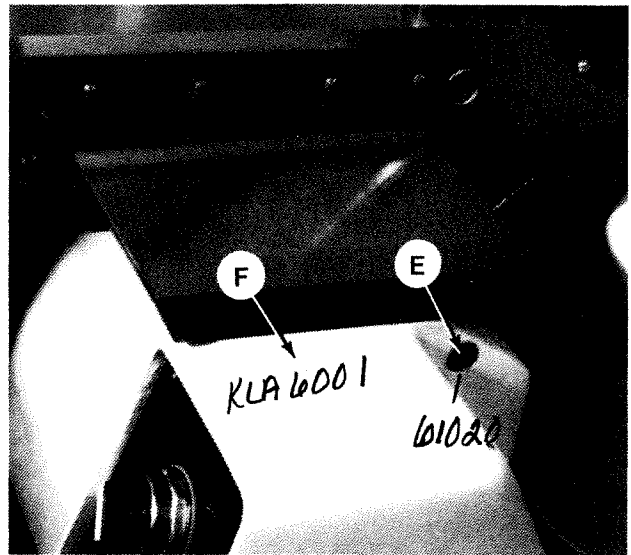

Figure 3.43 - Control Box Removal
6. Remove three bolts "E", Figure 3.43, and pull power feed control box "F" away from the end of the bed.
20. Hand tighten the cord grip nut to secure the power feed motor cable to power feed control box "F", Figure 3.43 ..